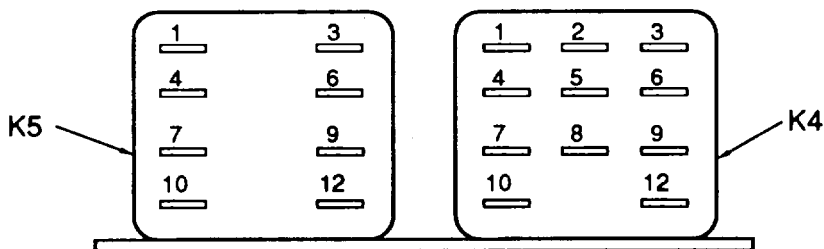

Figure 4-27. Relays K-4 and K-5
(3) Relays K4 and K5. (See figure 4-27.)